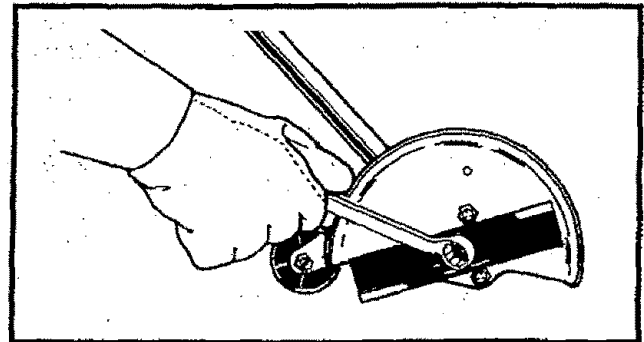

Figure 16
3. Using a 7/16 inch wrench, turn hex nut counter-clockwise . Figure 16.